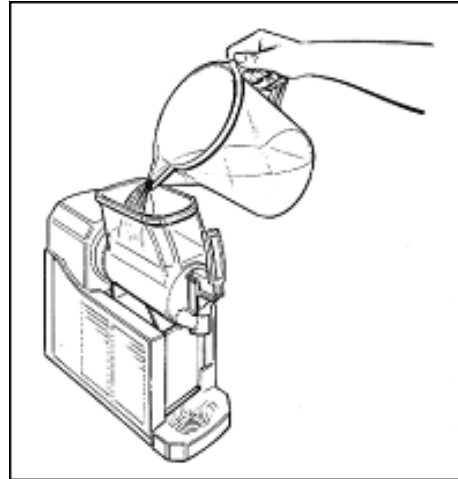

Fig. 32
- Pour lukewarm water into the bowl (Fig. 32) and, after re-positioning the main cover, make the scraper auger rotating for some minutes (all LED switched off).